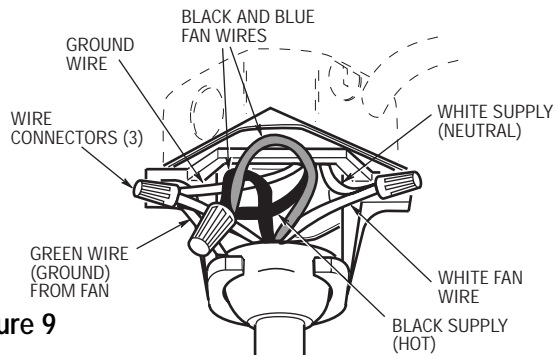

Figure 9
2. Connect the fan motor white wire to the supply white (neutral) wire using a wire connector (supplied) (Figure 9). Connect the fan motor black wire and blue wire to the supply black (hot) wire using a wire connector (supplied) (Figure 9). Your fan is now wired to be turned on and off from the fan switch. After connections have been made, turn leads upward and carefully push leads into the